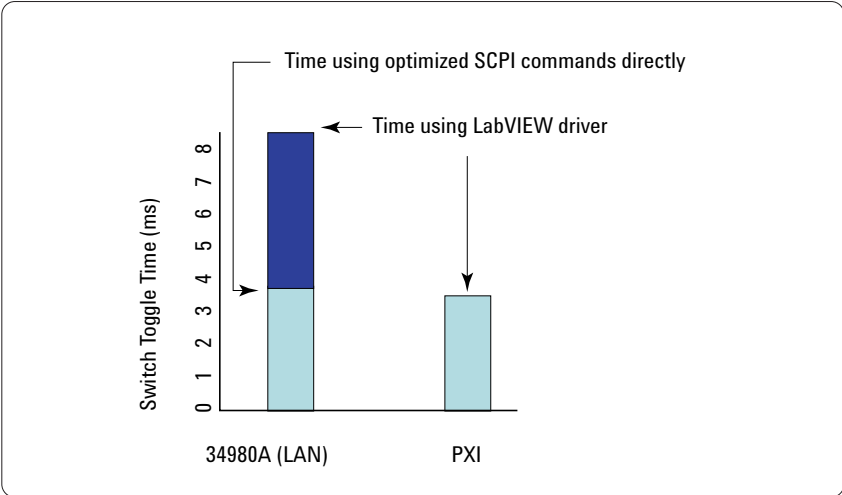

Figure 2. Time to close and open a single channel on a reed relay mux card using an NI PXI reed relay card and an Agilent 34980A with a similar reed relay card.
You may have seen the chart similar to the one shown in **Figure 2** at some National Instruments (NI) seminars that shows the effect of bus latency. By using standard, un-optimized LabVIEW drivers, NI showed that the execution time of a switch toggle sequence (closing a relay, testing for closed, opening the relay, testing for open) using an NI PXI reed multiplexer card appears to be 127% faster (3.74 ms vs. 8.3 ms) than that of a LAN-controlled Agilent 34980A Switch/Measure Unit using a similar switch card. But this is not the whole story. It is possible for the 34980A to match the speed of PXI in this example. When one controls the 34980A using native SCPI commands, the toggle time goes down to 3.9 ms on LAN, virtually the same as the PXI relay card.